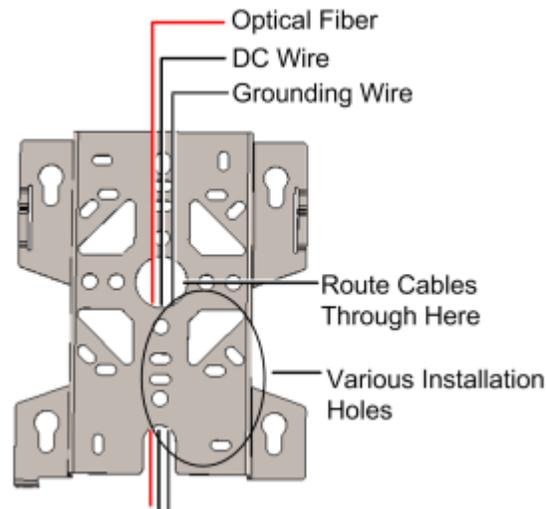

Figure 5-50. Routing Connection Cables through Bracket
2. Route the connection cables through center of the Mounting Bracket. See Figure 5-50.